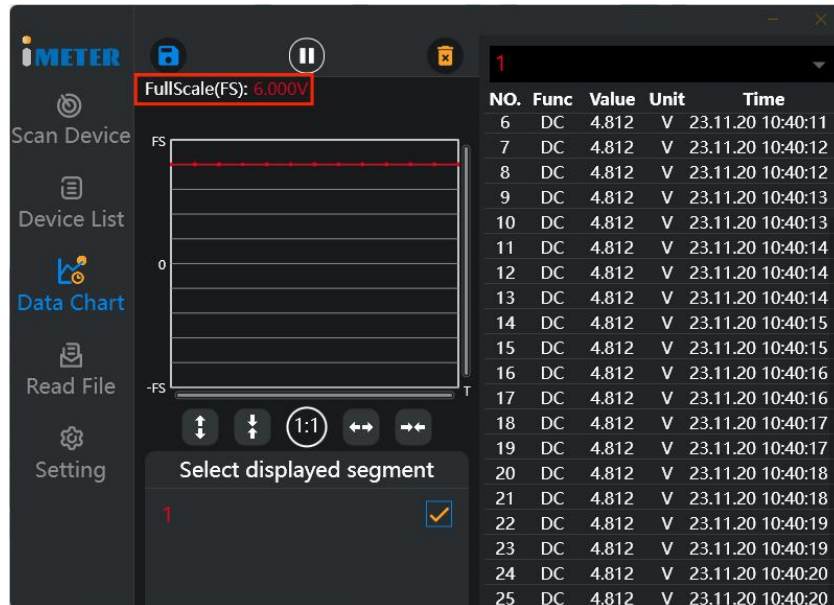

Figure 1
- Figure 1: The reading is 4.812V, the decimal point comes before the second place in the reading. Adding a decimal to the second digit of 6000 gives a full scale of 6.000V.